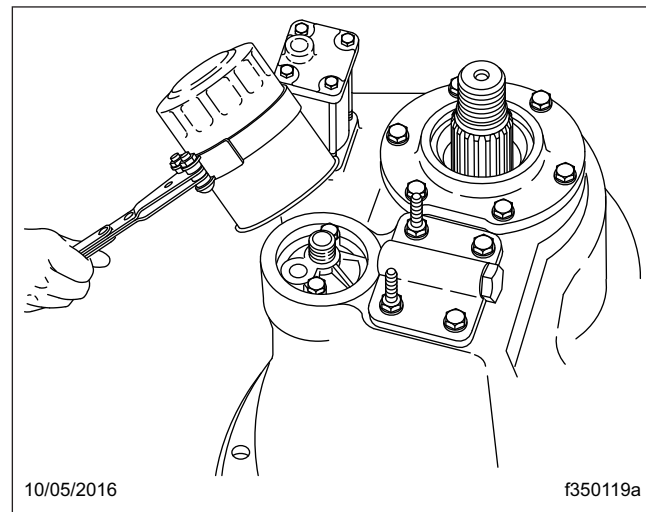

Fig. 6, Meritor Axle Oil Filter Removal
3. If equipped with an oil pump, use a suitable filter strap wrench to remove the axle oil filter. See Fig. 6. Discard the old filter.